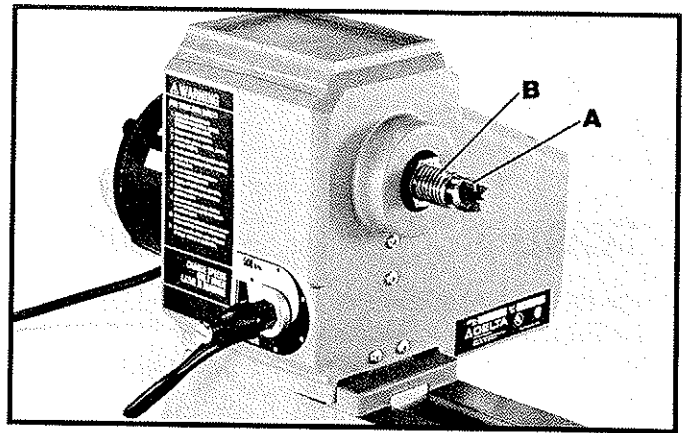
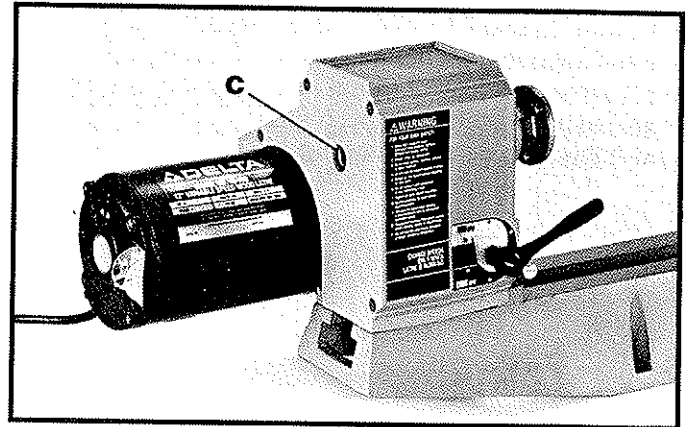

Fig. 24
Fig. 25
The spur center (A) Fig. 24, supplied with your lathe, is equipped with a No. 2 Morse Taper shank and is inserted into the headstock spindle (B) as shown. To remove the tapered shank spur center (A) from the headstock spindle, use a dowel rod or a piece of soft metal rod through the hole (C) Fig. 25, in the opposite end of the spindle. Available as an accessory for your lathe is the Cat. No. 46-905 Knockout Bar which is ideal for this purpose. It is equipped with a brass plug on one end and a comfortable knob on the other. **IMPORTANT: NEVER DRIVE THE WORKPIECE INTO THE SPUR CENTER WHEN IT IS MOUNTED IN THE HEADSTOCK.** Instructions on setting the spur center into the workpiece are found in the **OPERATION** section of this manual.